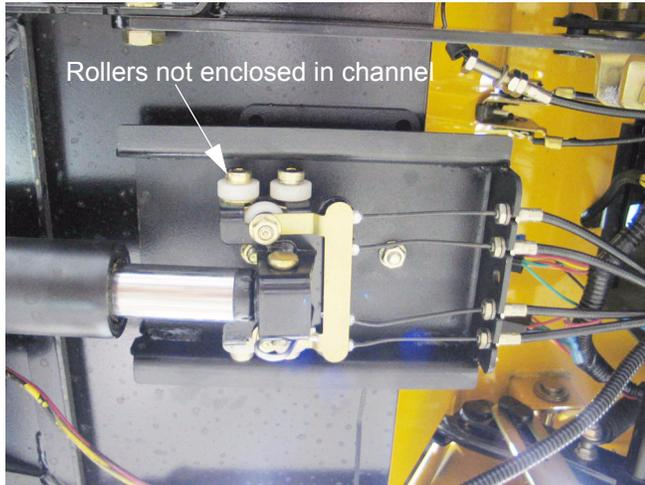

Figure 12.29
12.29. The rollers on actuator mounting brackets made since November of 2005 only contact the top surface of the cable mounting bracket. See Figure 12.29.